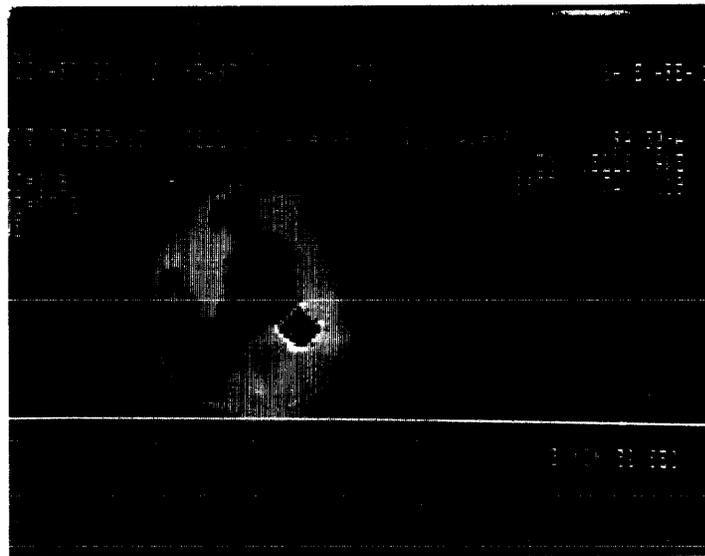

FIGURE 2. ROI defined over end-systole left ventricle
- 5) Display the end-systole image, lower the upper threshold (recommended setting is around 5% lower than threshold in step 2) (e.g. UT48) and repeat steps 3 and 4. (Figure 2)